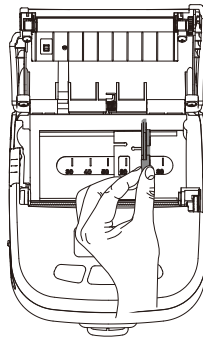

Figure 1
- (1) Adjust the paper width according to the paper size. Pinch the top of the paper guide plate and slide it to the left (as shown in Figure 1).